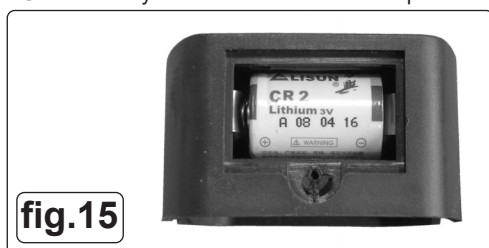

fig.15
- 6.1.3. Remove and replace battery (fig.15).